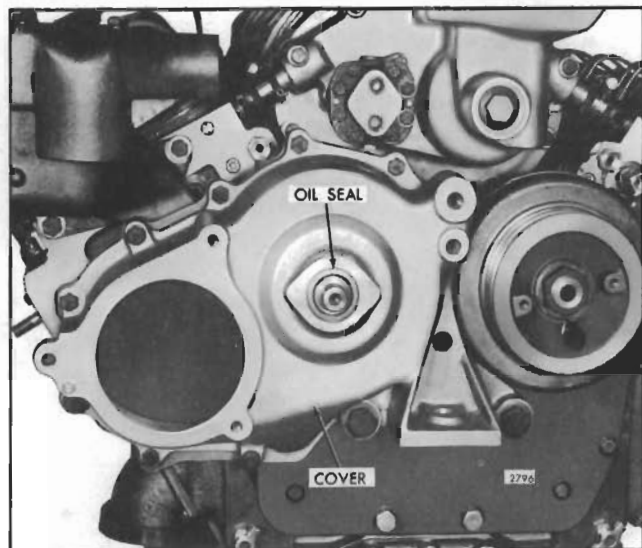

Fig. 1 - Balance Weight Cover Mounting
The balance weight cover (Fig. 1) encloses the combination balance weight and water pump drive gear on the front end of the right cylinder bank camshaft. This cover also serves as a support for the water pump.
2. An accessory drive shaft oil seal is pressed into the balance weight cover on some engines (Fig. 1). If necessary, replace the oil seal as follows: